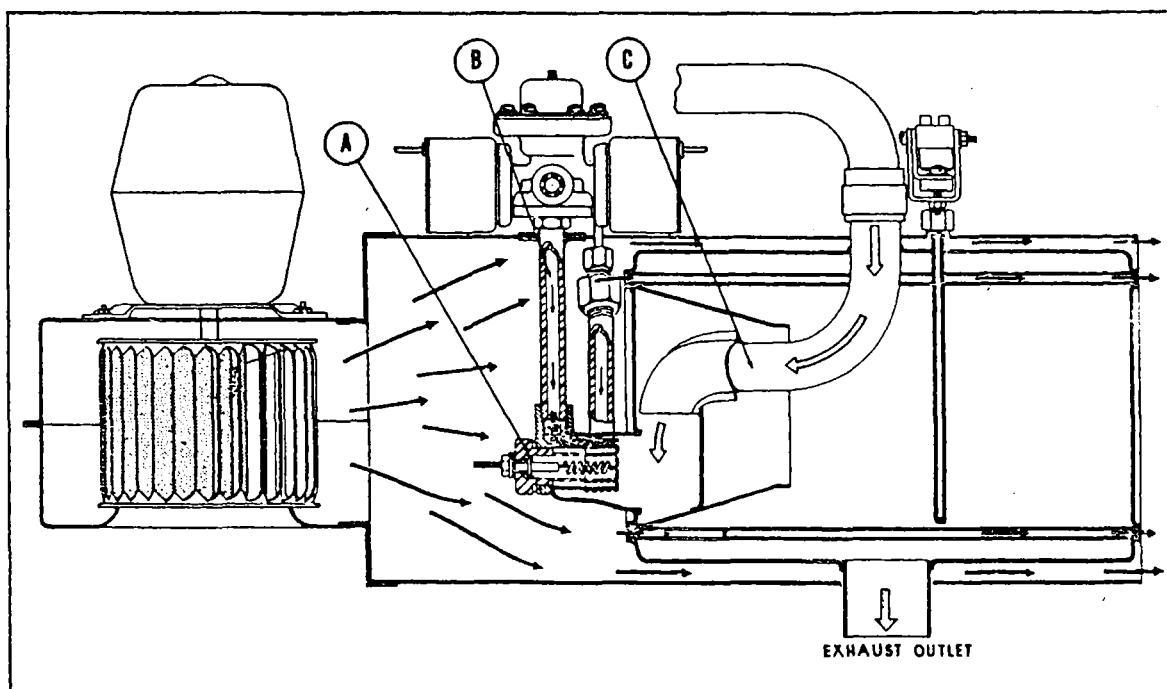

Figure 13-6. South Wind Heater Model 979-B1
- Fuel is metered into the heater. (Refer to "B", Figure 13-6.)